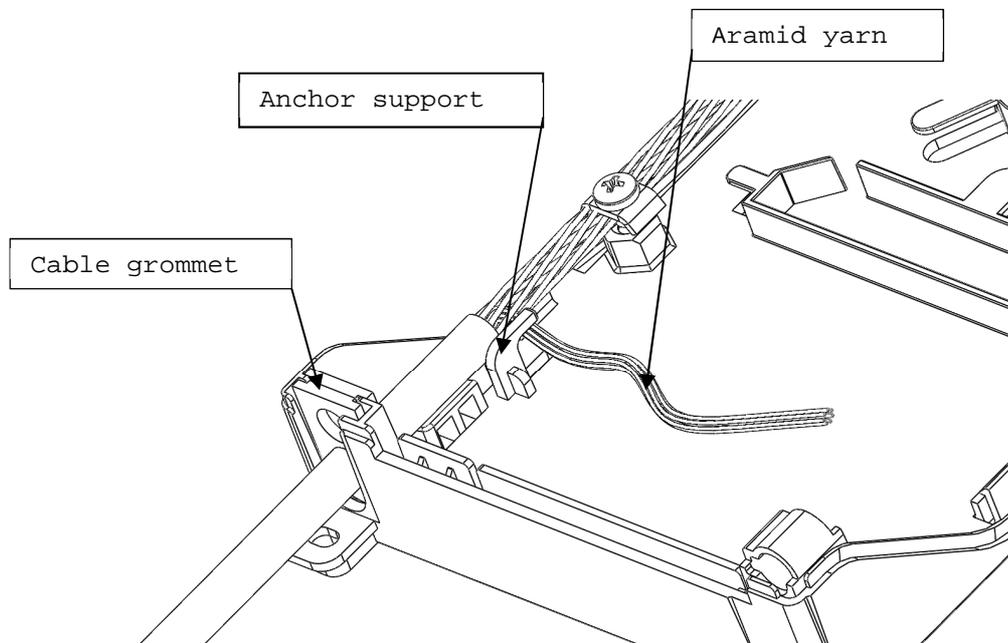

Fig. 11
3.1.6. Pass the aramid under the anchor support of the internal base as shown on Fig. 11;